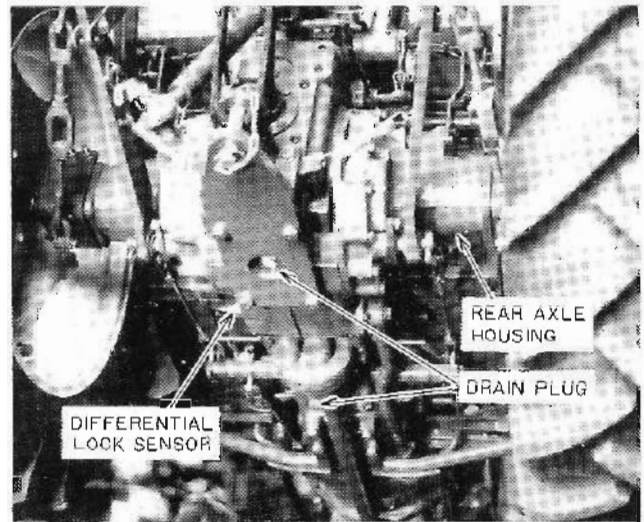

Figure 42 – Transmission, Rear Axle Oil Drain Plugs and Filter
1. With the oil at normal operating temperature, drain the oil by removing the transmission and rear axle drain plugs, Figure 42. Also drain four-wheel drive housing, if applicable. Reinstall the plugs after the oil has drained. Discard the oil.